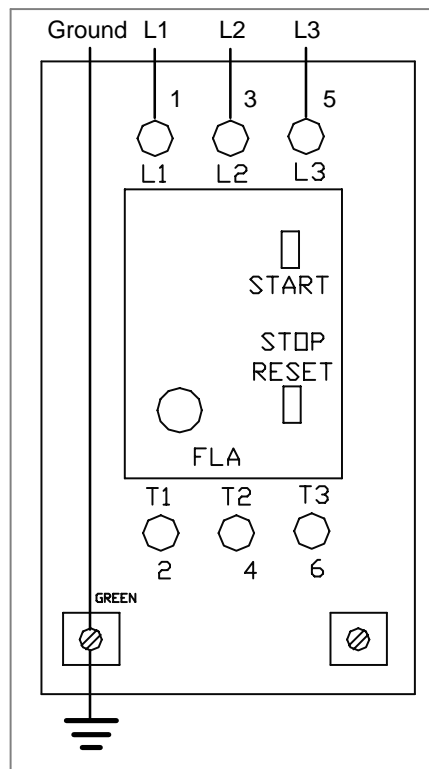

Figure 12
2. Insert line cord through grip (AB) and tighten nut.
3. For correct three-phase motor shaft rotation, connect line phase sequence L1, L2 & L3 to terminals as shown (Figure 12).
NOTE: The motor ground wire is also attached to left terminal marked \equiv (Figure 12).
4. Attach ground wire to lower left terminal marked \equiv (see Figure 12).